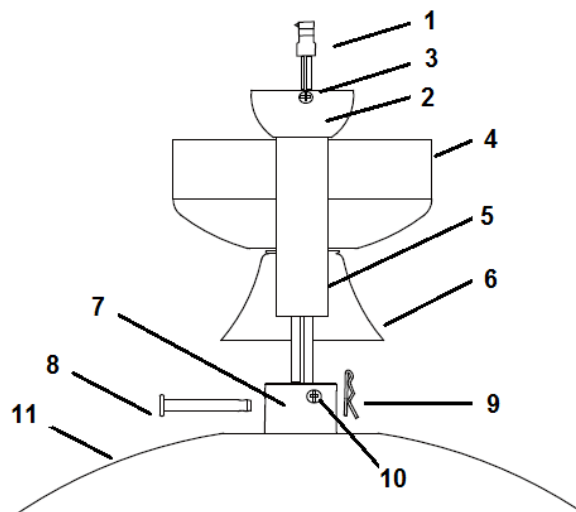

Fig. 4
- 1) Feed the down rod (5) through the canopy (4) and the bolt and pin cover (6).
- 2) Remove the ball joint (2) by loosening the set screw (3), insert the motor wires through the down rod then secure the ball joint back to the down rod.
- 3) Insert the down rod to the coupling (7), line up the coupling holes with the down rod holes and insert the bolt (8). Then insert the pin (9) to the end of the bolt.
- 4) Finally secure the down rod and coupling by tightening the two set screws (10) on the coupling.
- Fig. 4